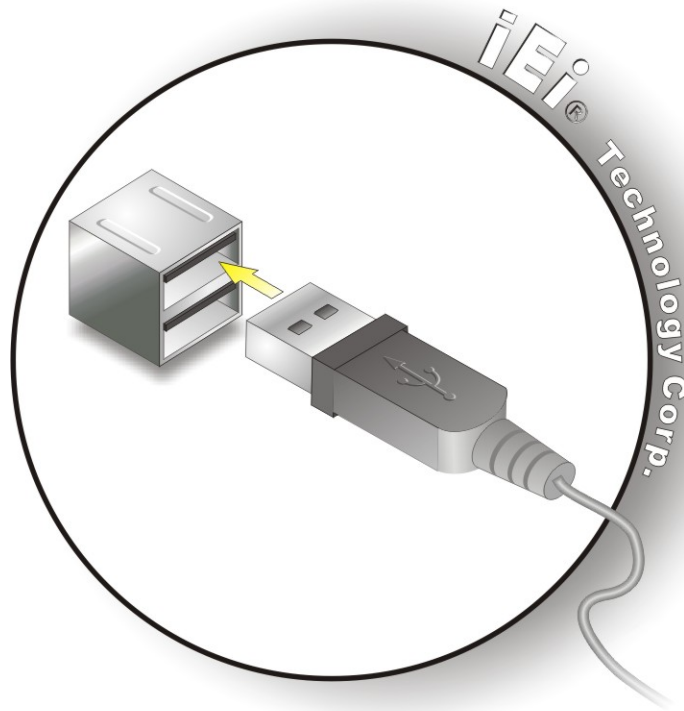

Figure 5-20: USB Connector
Step 2: Insert a USB Series "A" plug. Insert the USB Series "A" plug of a device into the USB Series "A" receptacle on the external peripheral interface. See Figure 5-20.